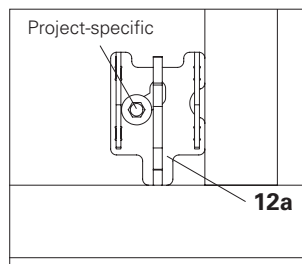
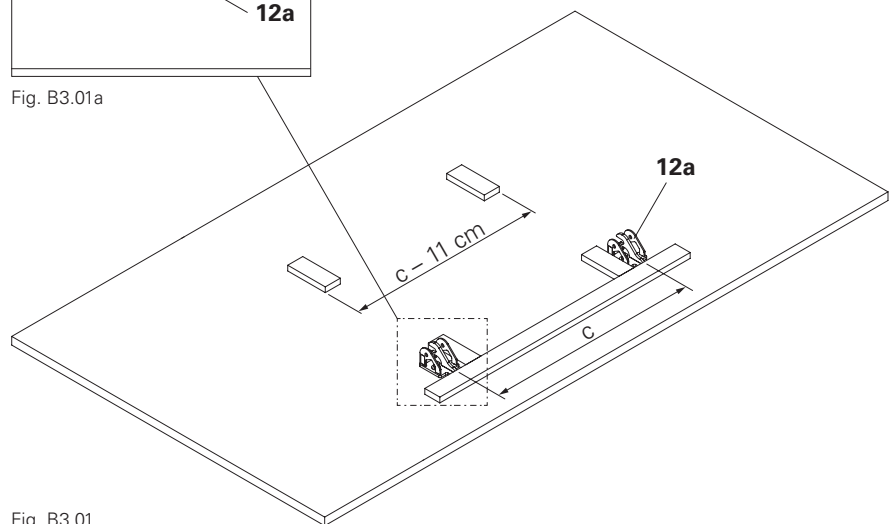

Fig. B3.01a
Fig. B3.01
- Aligned and calibrated stops simplify the process of pre-assembling the work platform in a quick and precise manner (Fig. B3.01).
- (Fig. B3.01 + Fig. B3.01a)